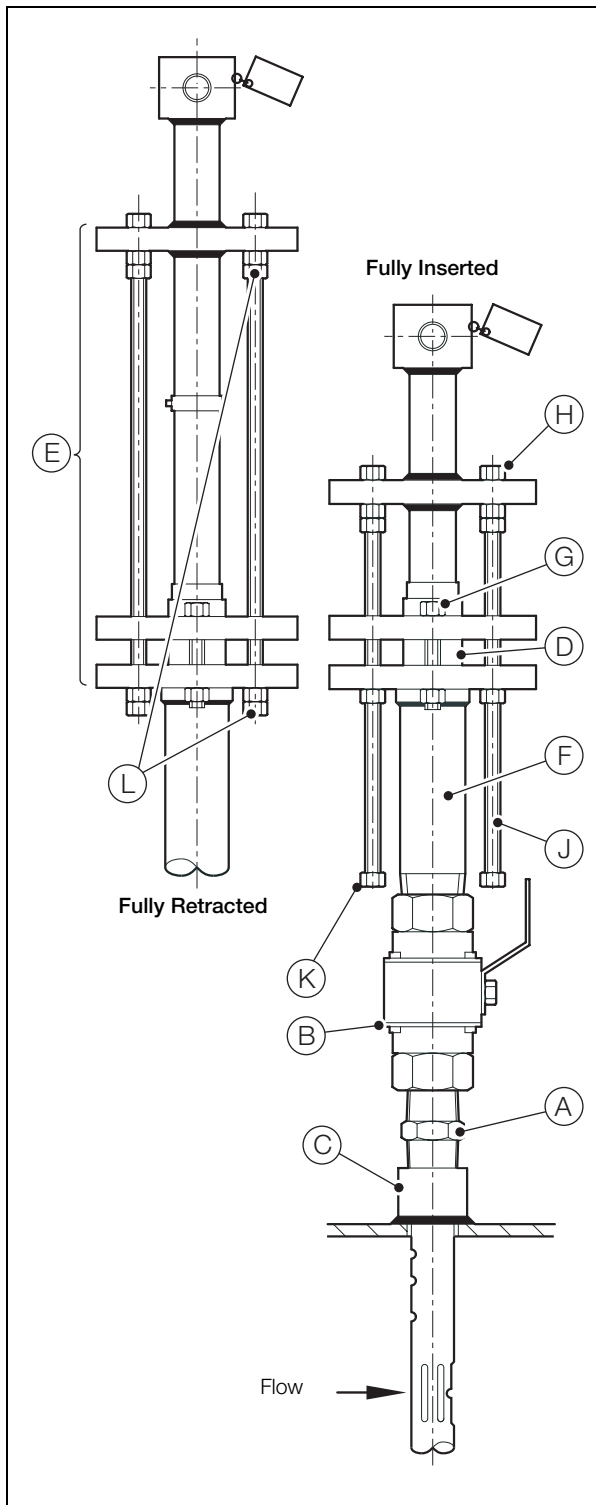

Fig. 2.13 Models H601 and H701 Installation
5. Referring to Fig. 2.13:
- a. Apply suitable sealant to the close nipple (A) and isolation valve (B) and fit them to the threaded fitting (C). Tighten securely.
- b. Attach hot-tap drilling equipment to isolation valve (B) in accordance with the manufacturer's instructions.